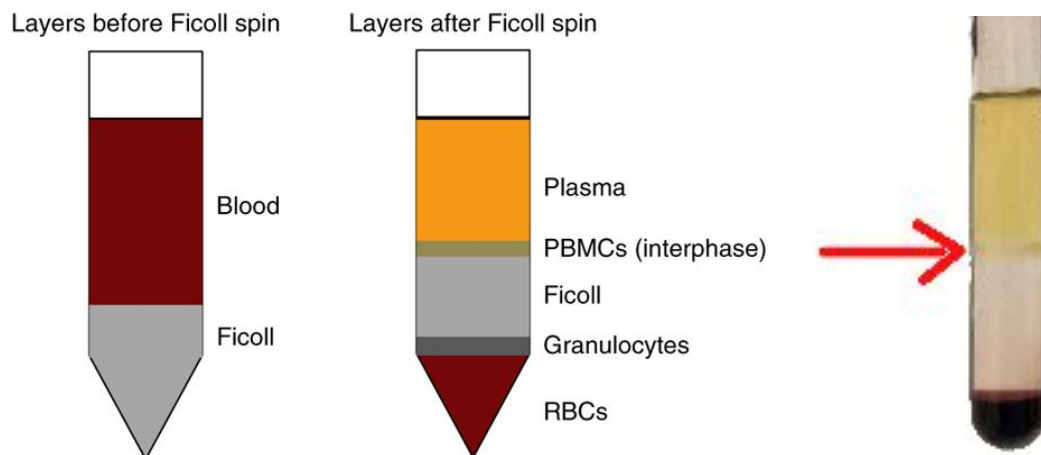

Fig. 1 | Position of the PBMCs after centrifugation (Source: Lin et al., Nature Protocols 9, 1563-1577 (2014))
4. After centrifugation, the PBMCs are concentrated in a whitish layer just beneath the plasma layer (Fig. 1). Note: A reddish PBMC layer indicates contamination with red blood cells and reduced sample quality.